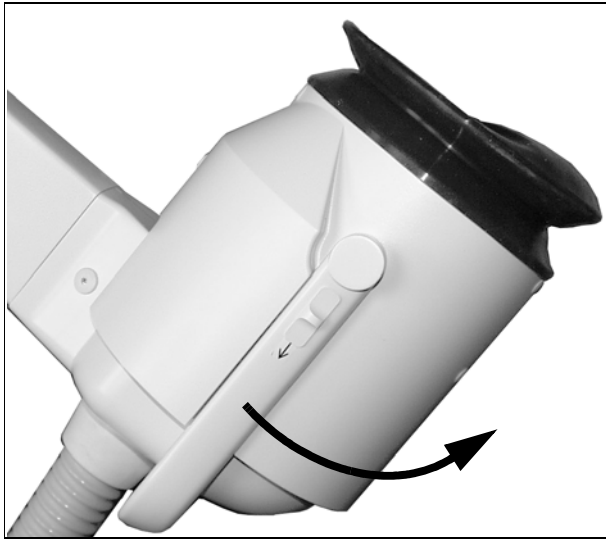
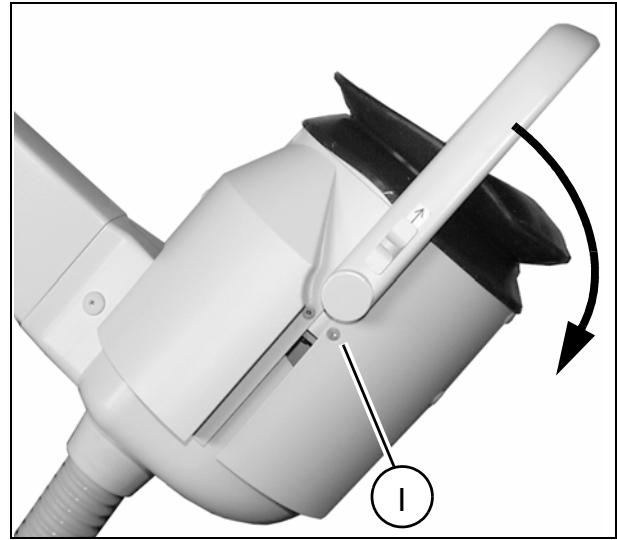

Fig. 1
Fig. 2
- Remove the mounting screws (I/ Fig. 2) for the upper cover on both sides of the shock head.
- Push the buttons in the direction of the arrow on both sides of the iso-center phantom (Fig. 2) and at the same time flip the iso-center phantom back (Fig. 1).
- Push the buttons on both sides of the iso-center phantom in the direction of the arrow (Fig. 1) and at the same time flip the iso-center phantom up (Fig. 2).